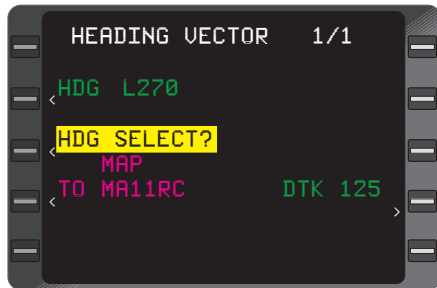

Figure 3-84
2. **ENT** Key - DEPRESS. The cursor moves to the Heading Mode field and **HDG SELECT?** is in the cursor. (Figure 3-84)